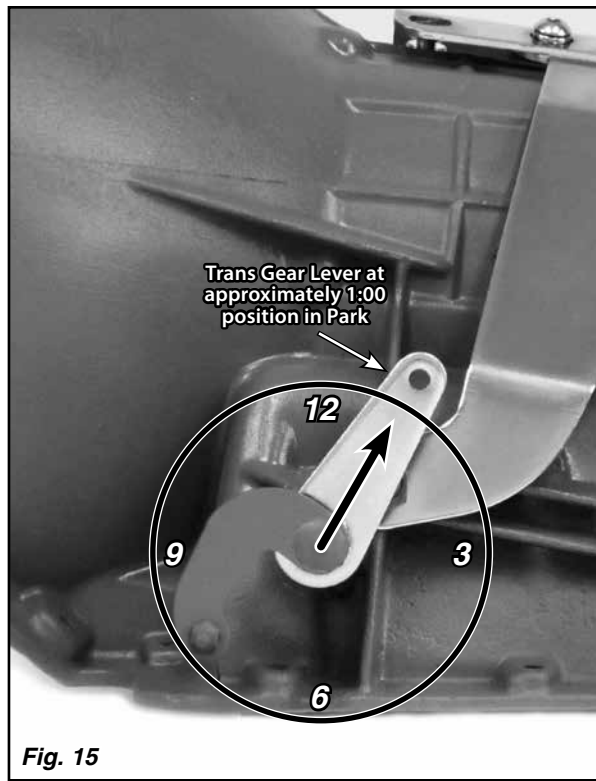

Fig. 15
Step 22: Remove the rod end from the new trans gear lever. Place the trans gear lever in the Park position with the top of the lever pointing up and slightly towards the rear of the transmission, at about the 1:00 position. **Fig. 15**